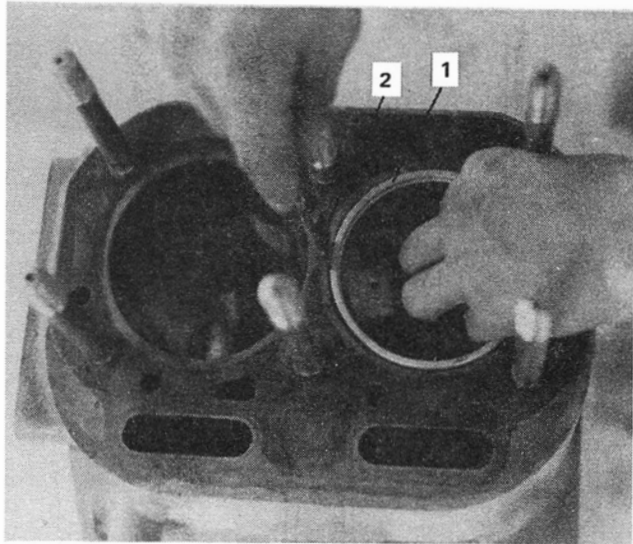

Figure 18
2. Measure the gap between the longer diameter of the piston skirt and the cylinder body, Figure 18. If the gap exceeds the specified limit page 29, a new piston should be installed.